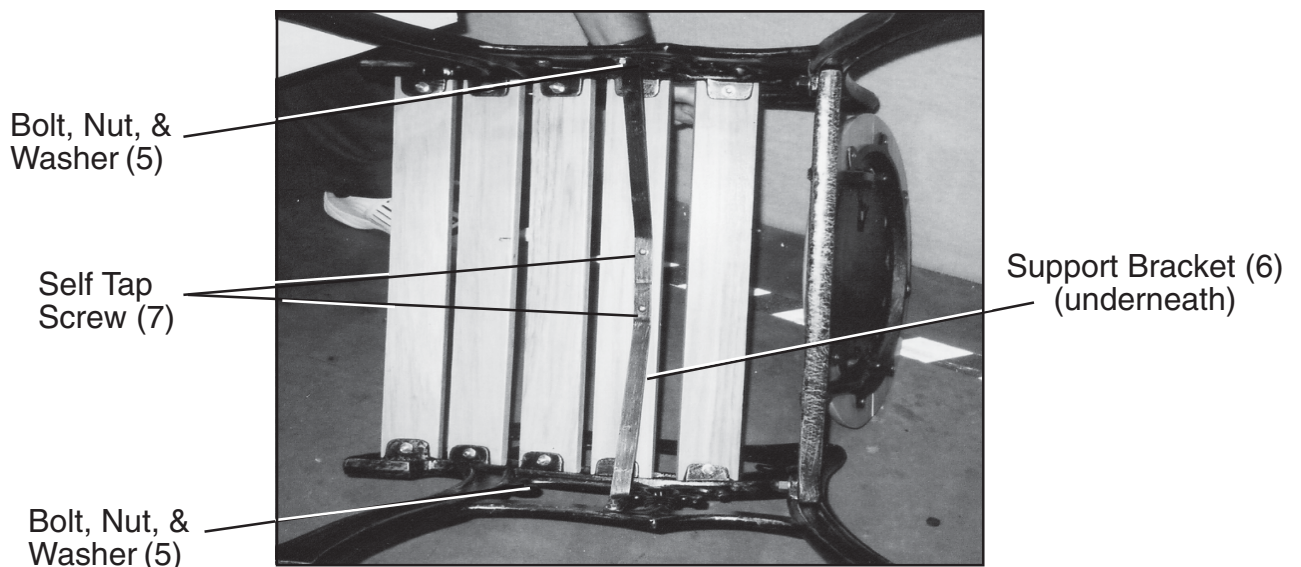

Figure 3
3. With the assistance of another person, carefully turn the Bench upside down and attach the Support Bracket (6) with the Self Tap Screws (7) in the two center predrilled holes. Screw into the second wood slat counting from the back of the seat. Use Bolts, Nuts and Washers (5) to secure the ends of the Support Bracket to the End Pieces (2), left and right. **See Figure 3.**